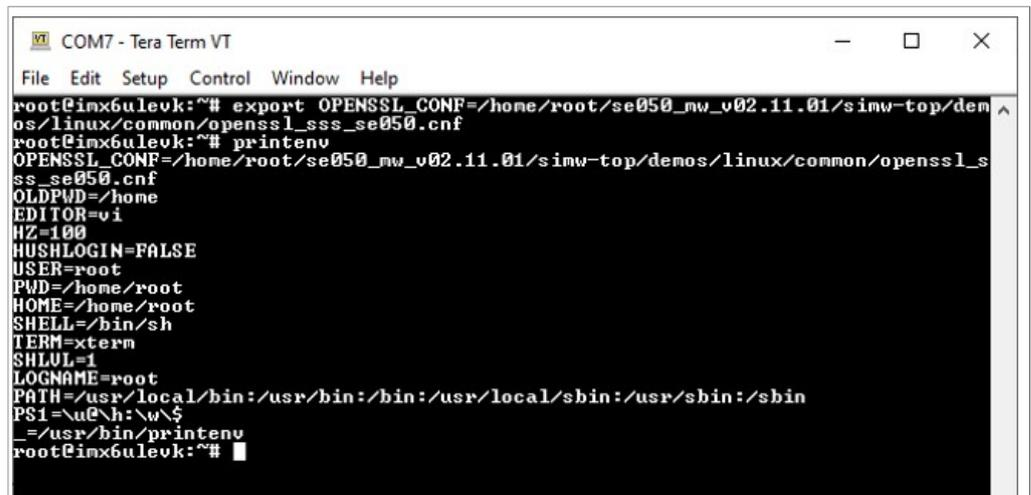

Figure 26. Export the OPENSSL_CONF variable.
- 2. Export the **OPENSSL_CONF** environment variable as shown in Figure 26: